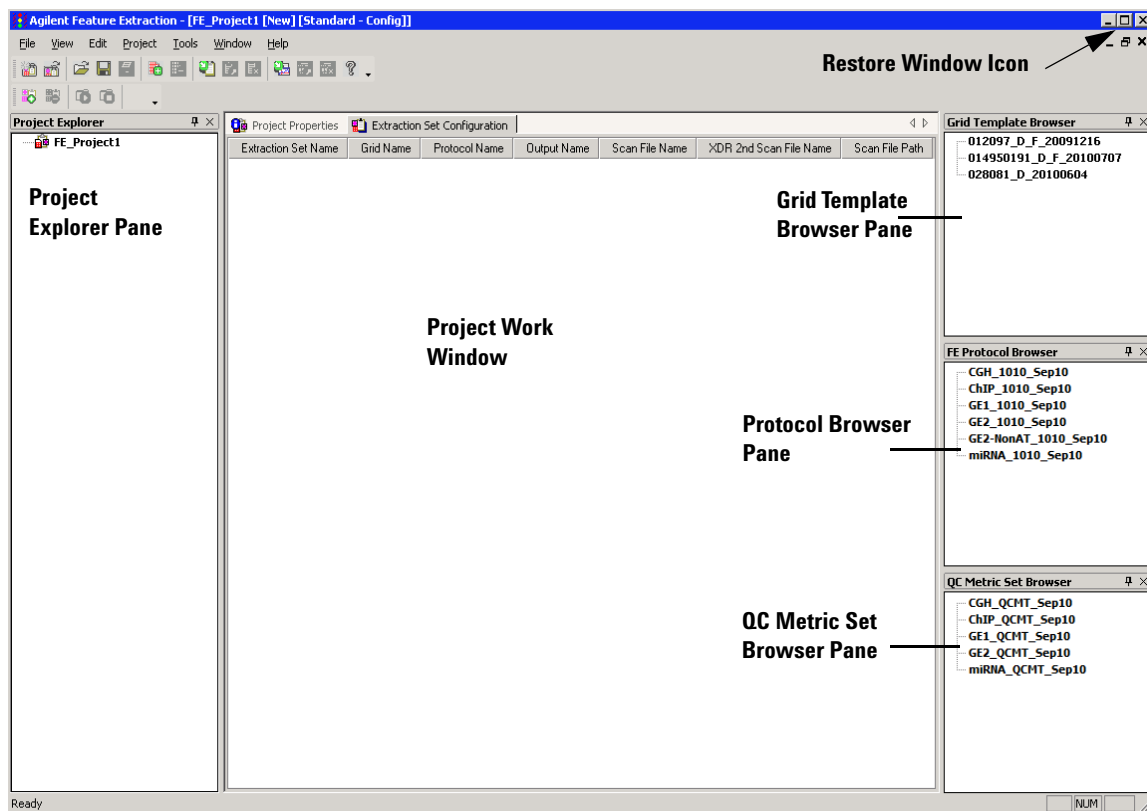

Figure 107 FE Standard Project Configuration window – default
- Click the **Restore Window** icon for the Project Work Window. See Figure 107.